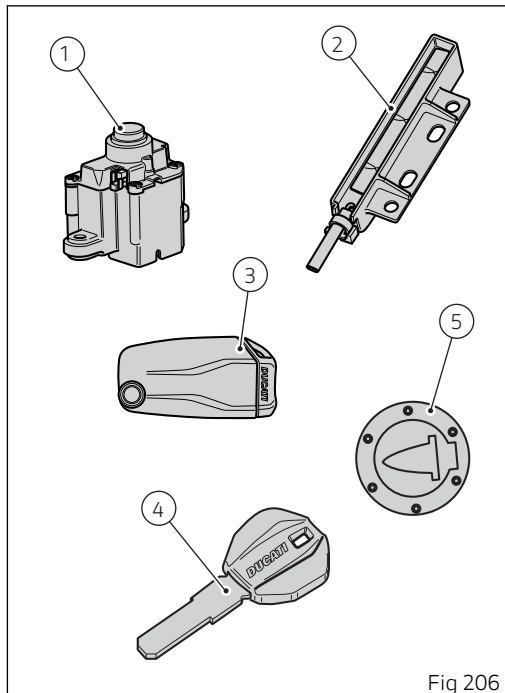

Fig 206
The "Hands free" unit (1, Fig 206) is located on tank front side and can be accessed by pulling up and removing protection cover (8).
Key-On can be performed by pressing button (6) on the handlebar and with the presence of the active key (3, Fig 206).
Key-Off can be performed by pressing the button (6) on the handlebar. It can also be performed without the key (3, Fig 206) only if motorcycle speed is equal to zero.
Key-On can be performed by pressing button (7) on the Hands free unit (1, Fig 206) and with the presence of the active key (3, Fig 206).
Key-Off can be performed by pressing button (7) on the Hands free lock (1, Fig 206), also without the key (3, Fig 206).
Key-On can be performed by pressing the grey button (6) on the handlebar and with the presence of the passive key (4, Fig 206).
Key-Off can be performed by pressing the grey button (6) on the handlebar. It can also be performed without the key (4, Fig 206) only if motorcycle speed is equal to zero.
Key-On can be performed by pressing button (7) on the Hands free lock and with the presence of the passive key (4, Fig 206).
Key-Off can be performed by pressing button (7) on the Hands free lock (1, Fig 206), also without the key (4, Fig 206).
Key-On can be performed by pressing button (7) on the hands free lock (1, Fig 206) without the presence of the keys (3) and (4) and entering the pin code on the instrument panel.